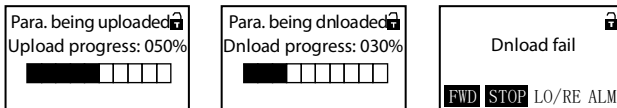

Figure 5-10 Parameter upload, download shows
The keypad uploading and downloading display is as shown in Figure 5-10.
1. If parameter download fails, "parameter download failed" will be displayed, as shown in Figure 5-10, indicating that the keypad EEPROM memory parameters do not match the current drive function parameters. The correct function code settings must be uploaded to the keypad EEPROM, then download.